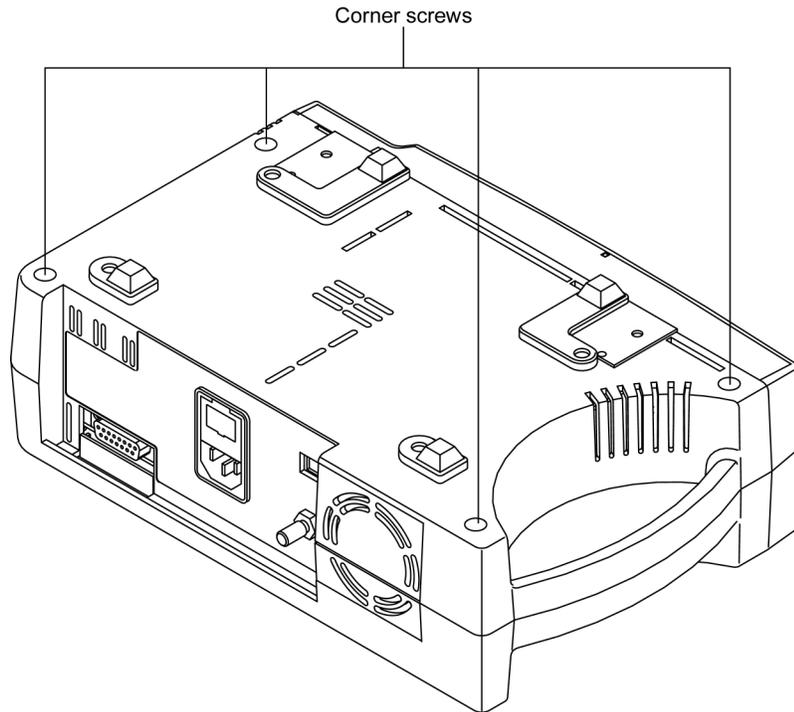

Figure 1: Corner Screws
4. Set the N-595 upside down, as shown in Figure 1.